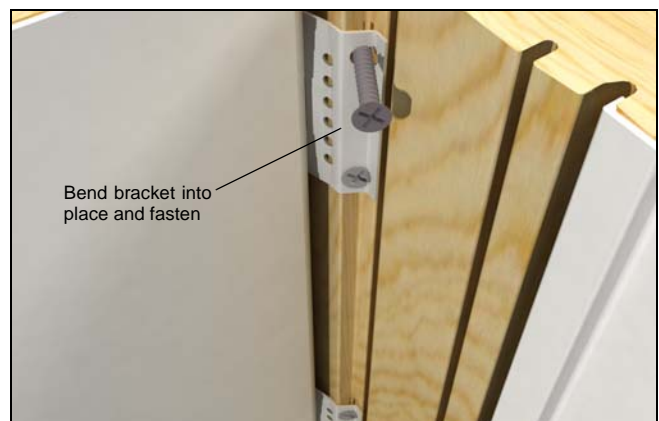

Figure 20
8. Bend bracket so the corner of the bracket seats into the corner of the frame weather strip kerf. Secure each bracket to the frame with two 70 degree angled #8 x 1" wood screws. See figure 20.